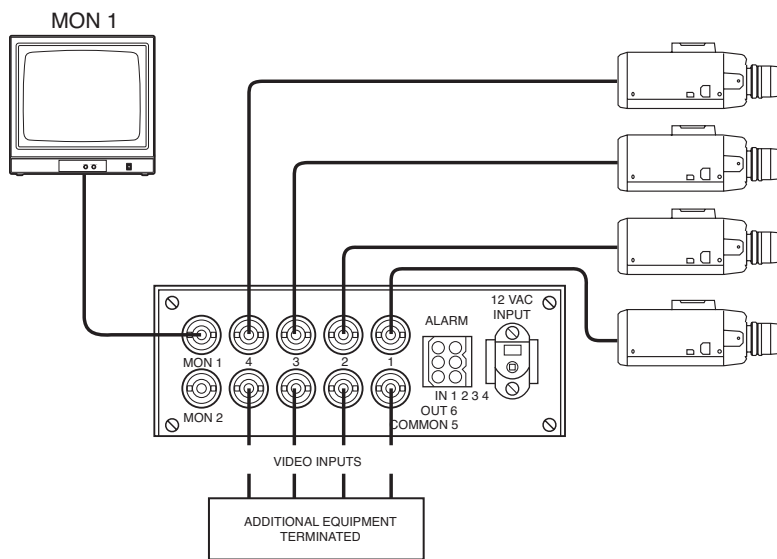
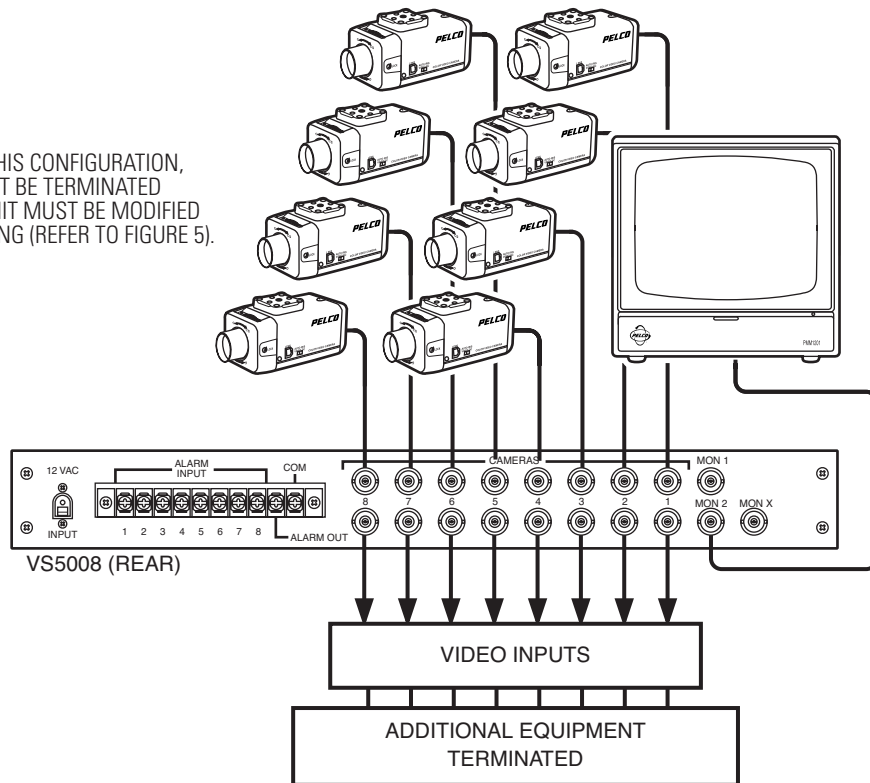

Figure 6. VS5004 Looping Camera Inputs - One Monitor
Figure 7. VS5008 Looping Camera Inputs - One Monitor
2. Make all equipment connections. Refer to Figure 6 (VS5004) or Figure 7 (VS5008).